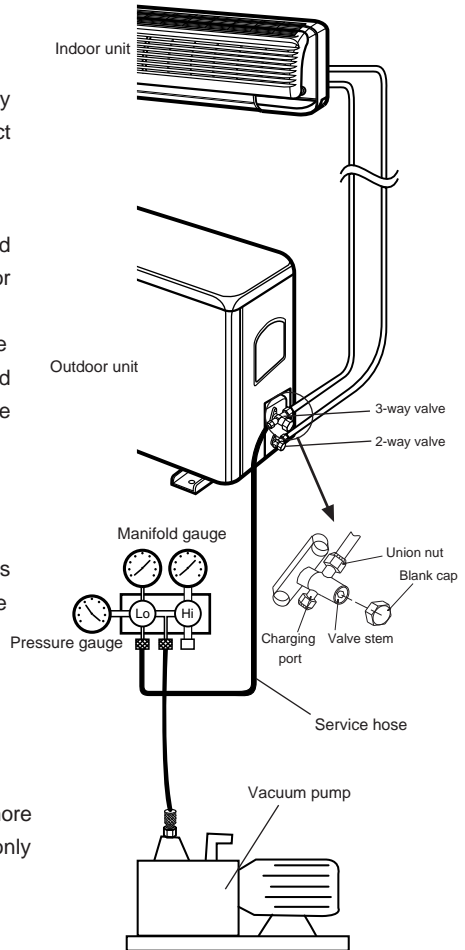

Fig. 8
1. Check that pipelines connection have been properly connected, remove the charging port cap, and connect the manifold gauge and the vacuum pump to the charging valve by service hoses as shown Fig.8.